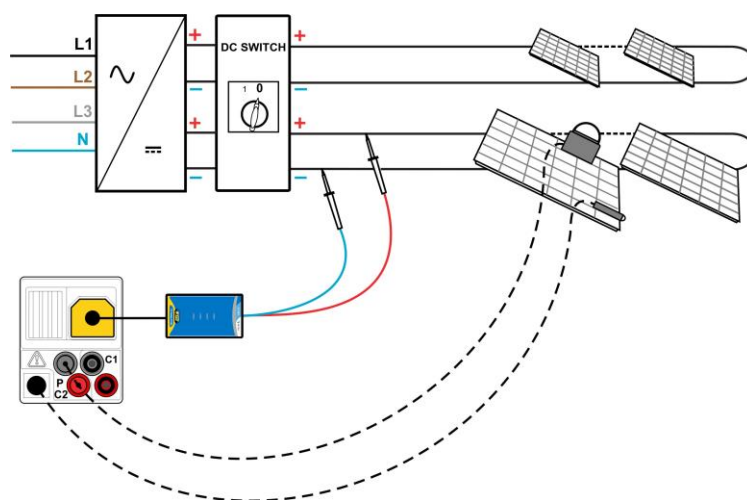

Figure 6.22: Uoc / Isc test
- ❑ **Connect** the item to be tested (see figure 6.22).